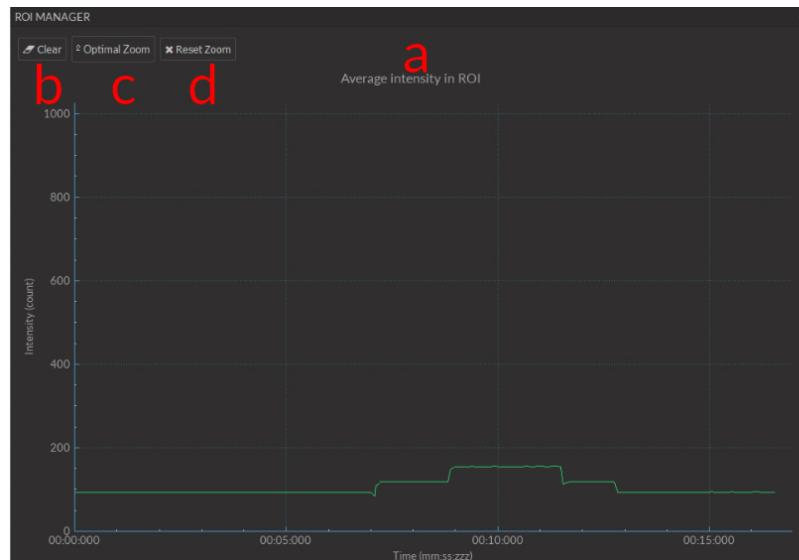

Figure 4.10: ROI Manager
- a) The **Average Intensity in ROI** plot (Fig. 4.10) displays the average intensity over time inside a drawn ROI. *CTRL + mouse wheel* will adjust the x-axis zoom, while *SHIFT + mouse wheel* will adjust the y-axis zoom.
- b) The **Clear** button (Fig. 4.10) will clear any data displayed in the ROI manager and the ROI on the **Image Viewer**.
- c) The **Optimal Zoom** button (Fig. 4.10) sets the zoom factor on the plot to best display all data.
- d) The **Reset Zoom** button (Fig. 4.10) resets the zoom to its default setting.